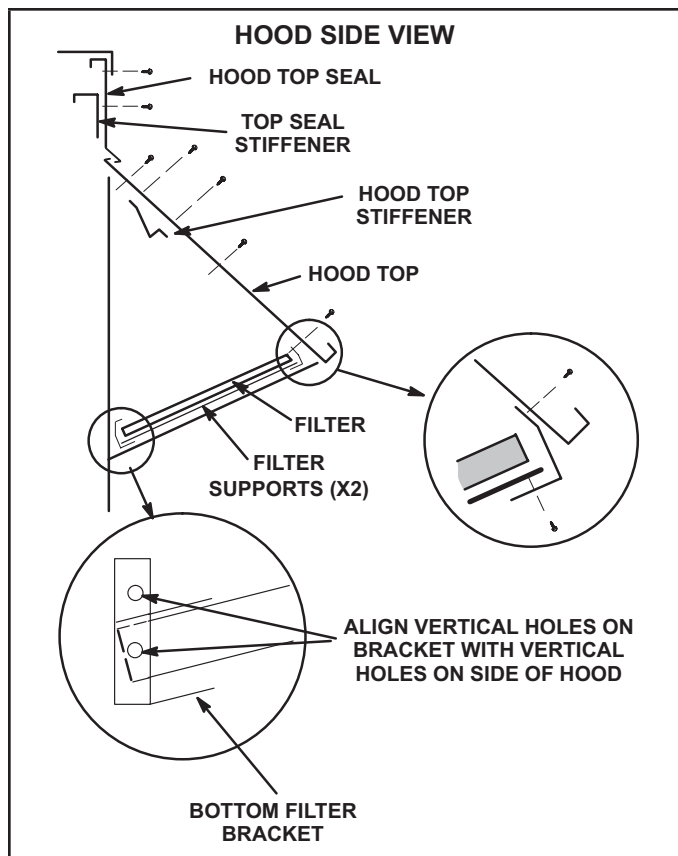
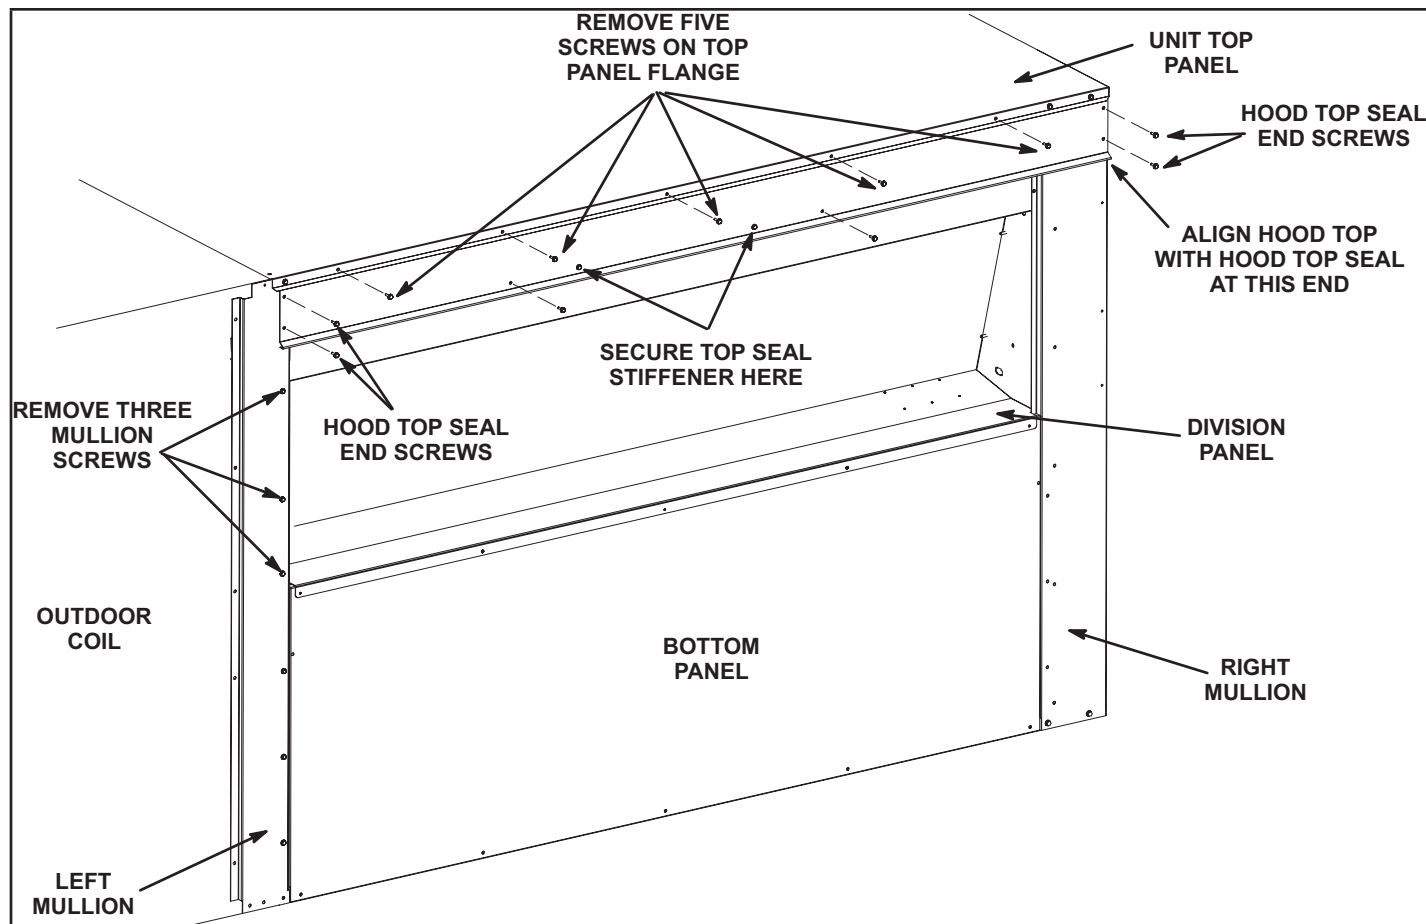

FIGURE 4
FIGURE 5
The outdoor air hood is packaged separately but attached to the damper assembly crate. Use #10 self drilling screws to install hood unless noted otherwise. Refer to FIGURE 4 through FIGURE 12.
- 2 - Secure top seal stiffener to back side of hood top seal. See FIGURE 4 and FIGURE 5.
- 3 - Slide hood top seal under unit cabinet top and secure using five retained top screws. Install, but do not tighten, the two screws on each end of the hood to seal. Refer to FIGURE 4.
- 4 - Remove and retain top three screws on the left mullion of the outdoor air section. See FIGURE 5.
- 6 - Position the hood top edge V-channel under the corresponding V-channel on the hood top seal and slide into place from right to left. See FIGURE 4 and FIGURE 5.